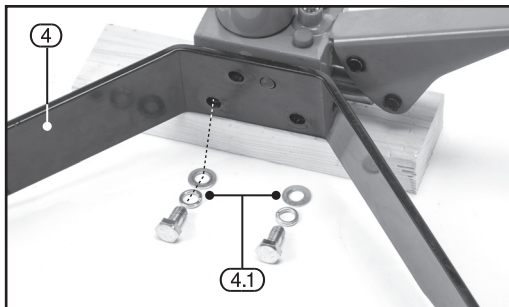

FIG.1
8.1 BASE SUPPORT – FIGS. 1 – 2